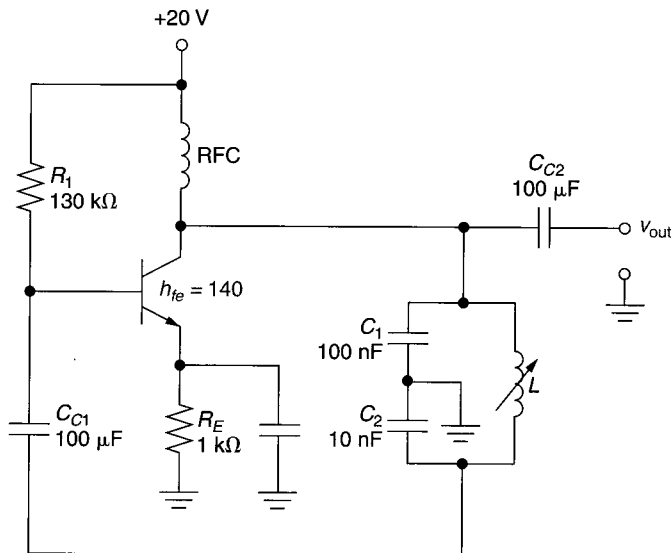

FIGURE 18.32
16. Despite its appearance, you've already seen the dc biasing circuit shown in Figure 18.32. Determine the type of biasing used, and perform a complete dc analysis of the oscillator.
17. The feedback inductor in Figure 18.32 is shown to be a variable inductor. Determine the adjusted value of  $L$  that would be required for an operating frequency of 22 kHz.